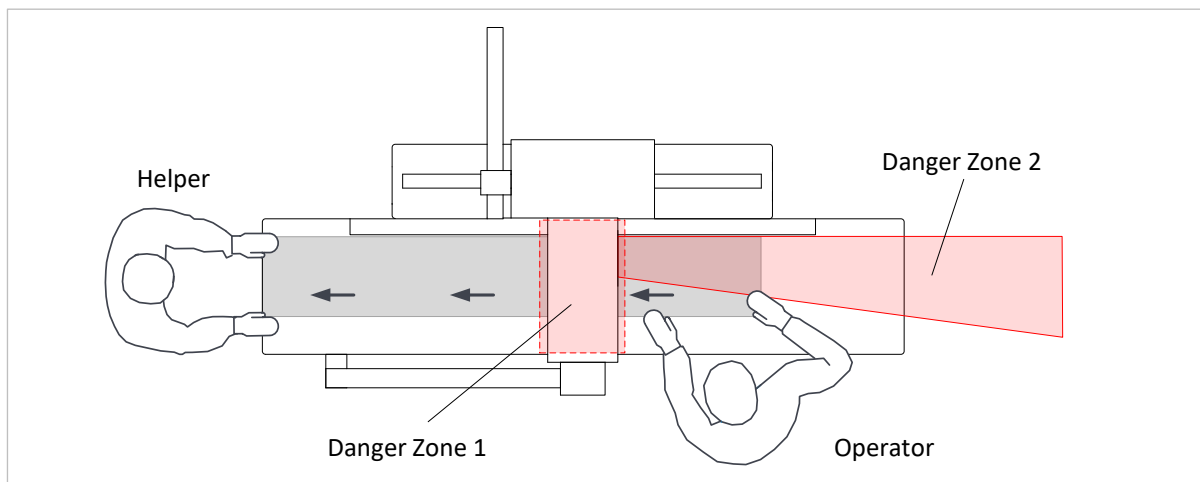

Figure 2: Danger zones during surface planing
- When surface planing & jointing, the operator of the machine must generally stand in front of the planing table, to the right of the cutter block resp. planer guard. It is forbidden to enter the Danger Zone 2 marked in ⇨ Figure 2 while the cutter is running.